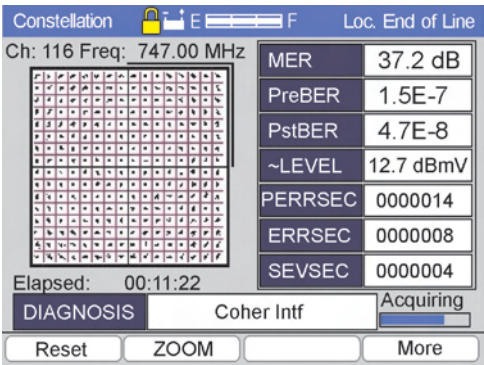

Figure 4-27
**ZOOM MODE** - In some cases, it is desirable to get a closer look at the individual constellation clusters. From the Constellation Screen press MORE (F4) and ZOOM (F3) as shown in Figure 4-27.